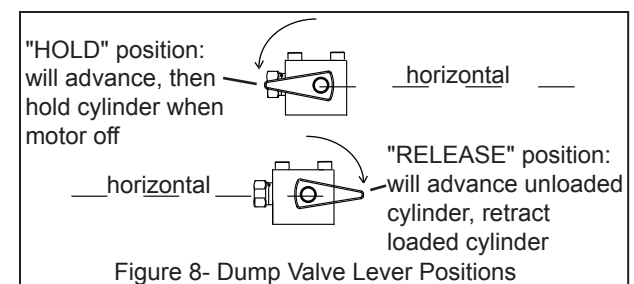

Figure 8- Dump Valve Lever Positions
PARD1701, PARD1703 (see Figure 8)
4. See Figure 8 below for details.